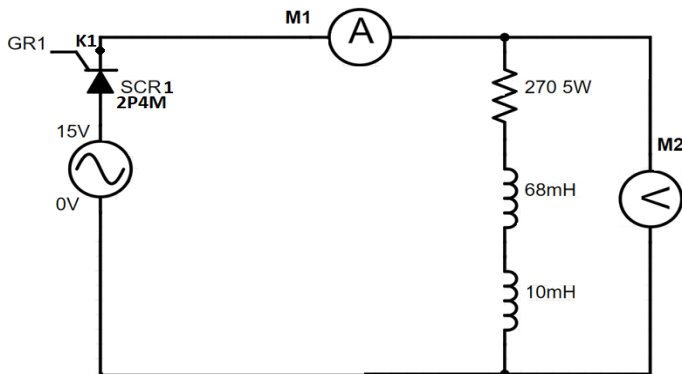

Figure 26
1. Connect the circuit as shown in Figure 26.
6. Connect the circuit as shown in Figure 26.